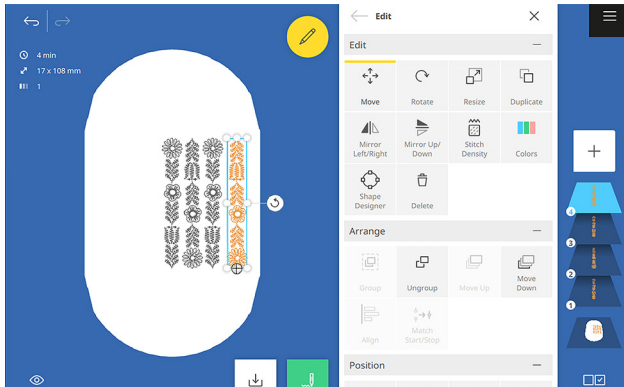

Fig. 24
10. Move the flower borders so they alternate up and down and do not overlap (Fig. 24).